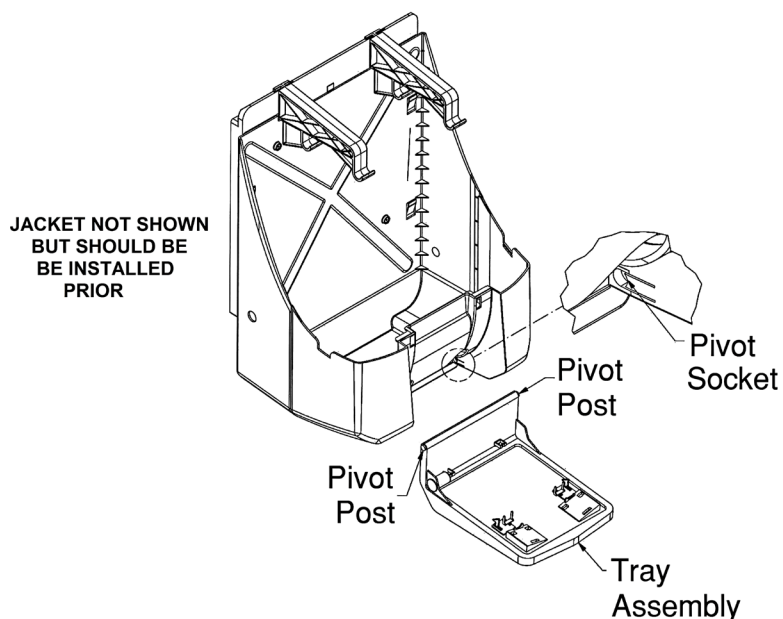

FIGURE 4
Step 4. Tray Assembly (Ref Figure 4)